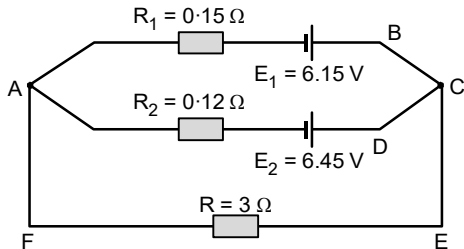

Fig. 1.77: Given network.
1. By using superposition theorem, find the current in resistance R shown in fig.1.77. $R_1 = 0.15 \Omega$, $R_2 = 0.12 \Omega$, $R = 3 \Omega$, $E_1 = 6.15 \text{ V}$, $E_2 = 6.45 \text{ V}$. Internal resistance of cells are negligible.